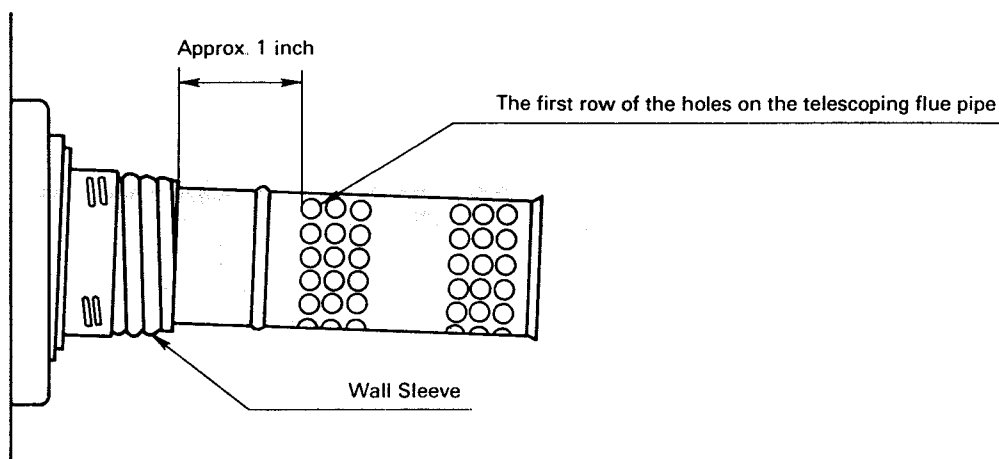

Fig. 12
- b. From outside, adjust the length of the telescoping flue pipe, so that the telescoping flue pipe extends beyond the wall sleeve. Leave approximately 1 inch distance between the edge of the wall sleeve and the first row of holes on the telescoping flue pipe (See Fig. 12).